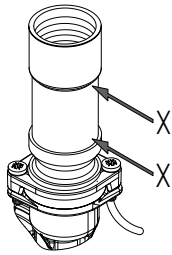

Fig. 16
- For correct operation of the flow switch, the reed must be secured to the body (Fig. 16)
- Locate the reed switch within the body groove as highlighted X-X (Fig. 16), and feed the tie wrap through the second catch.